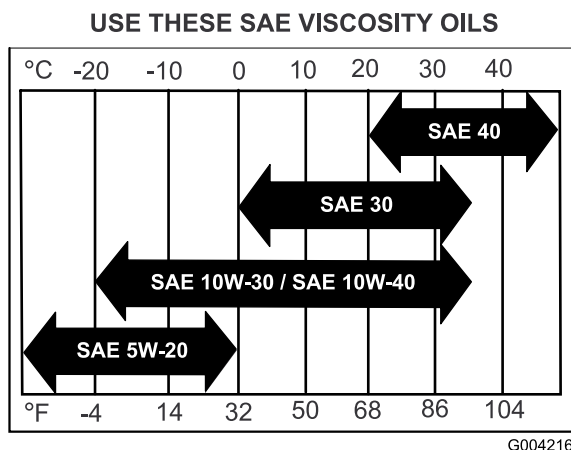

Figure 35
4. Fill the crankcase with the specified type of new oil; refer to Figure 35.